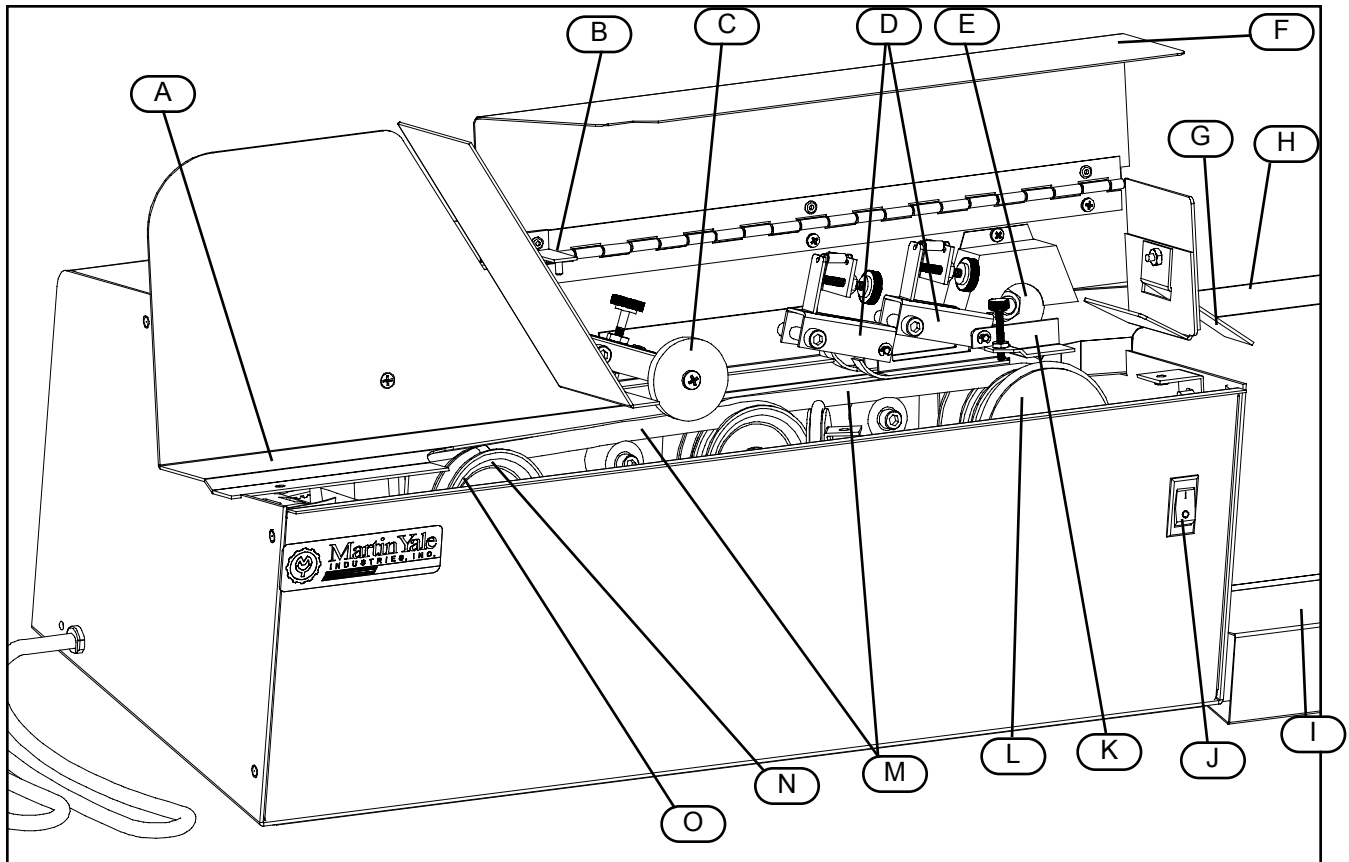
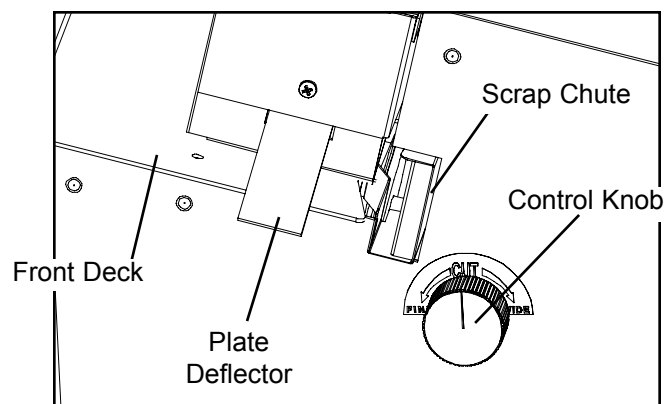

Figure 1
Figure 2
- * Note the twin spiral feed belts (M, see Fig. 1). Their spiral counterclockwise action shunts envelopes against the back plate for precision slitting. Note that the belt at left is angled more sharply. This “pre-feeds” envelopes to the belt at right.
- * The transporter wheel (not shown), another Model 62001 feature, acts as a further assurance that out-size pieces will be shuttled inward on the front deck (Fig. 2).
- * The holdback wheel (C) prevents jamming at the loading end. Since it is spring loaded, the bulkier the envelope, the greater the pressure exerted by the holdback wheel. This effectively prevents entry of more than one piece of mail at a time.
Self-sharpening blades made of precision steel (E) cut a measured strip from each envelope, whether fed face-up or face-down. The control knob at right (see Fig. 2) adjusts the blade and permits the operator to vary the width of cut from wide to fine.
Interiors of most mail opening machines are inaccessible without the removal of the entire operating assembly. The Model 62001 has a unique split deck feature which solves that problem. The deck is split lengthwise into two halves, front (see Fig. 2) and rear. The front half is removable, making cleaning, inspection and repair of the interior of the letter opener easier.
This is a one-time only installation. Look for the plastic packet inside the shipping carton. It contains the nickel-plated plate deflector and screw. Simply attach outside at point as shown. (See Fig. 2)
The catcher base simply sits on the exit side of the folder in a position to catch processed envelopes as they are ejected from the machine (See Fig. 1 for placement). The scrap bin lies in the narrow recess of the catcher base. The entire assembly then is aligned so that the inside front wall of the scrap bin butts against the front edge of the protruding lip of the scrap chute (See Fig. 2).
Check the control knob (Fig.2) for width of cut desired, from wide to fine. The cut should be deep enough to open envelopes cleanly but fine enough to insure that the blade does not come into contact with contents such as checks and money orders, etc., nor coins, staples and paper clips. Make sure the Model 62001 is 'OFF' as indicated by the 'O' on the power switch. Plug the machine into an appropriate power outlet.